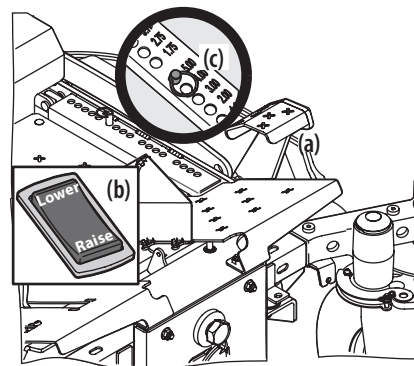

Figure 26
1. Use the deck lift pedal (a) or push down on the back of the electric deck lift switch (b) to raise the deck to its highest position, place the clevis pin (c) attached to the mower into the desired index hole on the deck height index, then slowly release the deck lift pedal (a) or slowly lower the deck by pressing down on the front of the electric deck lift switch (b). See Figure 26.